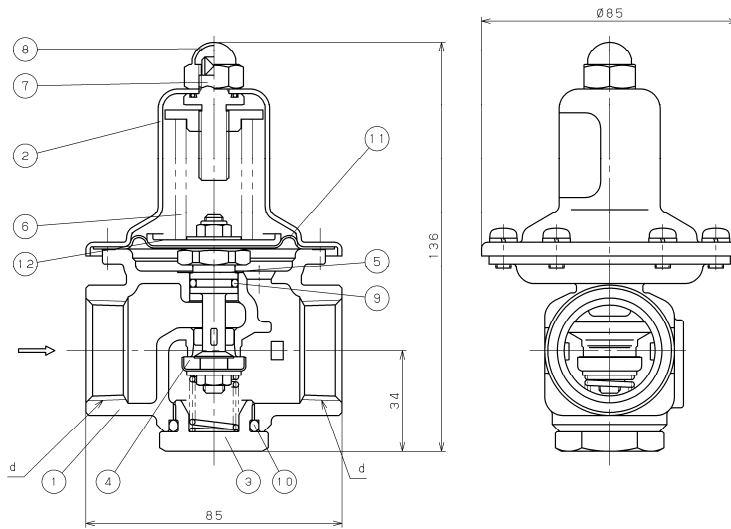

fig. 1
3.1 GD-41 Type, GD-41N Type (fig. 1, table 1, and table 2. Refer)